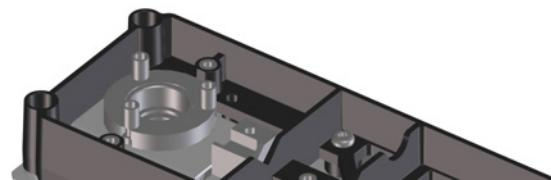

Figure 46. NPD lower ceramic insulator and metal C-ring
- 22 Install the bottom metal C-ring, the lower ceramic insulator, and the top metal C-ring. See Figure 46.